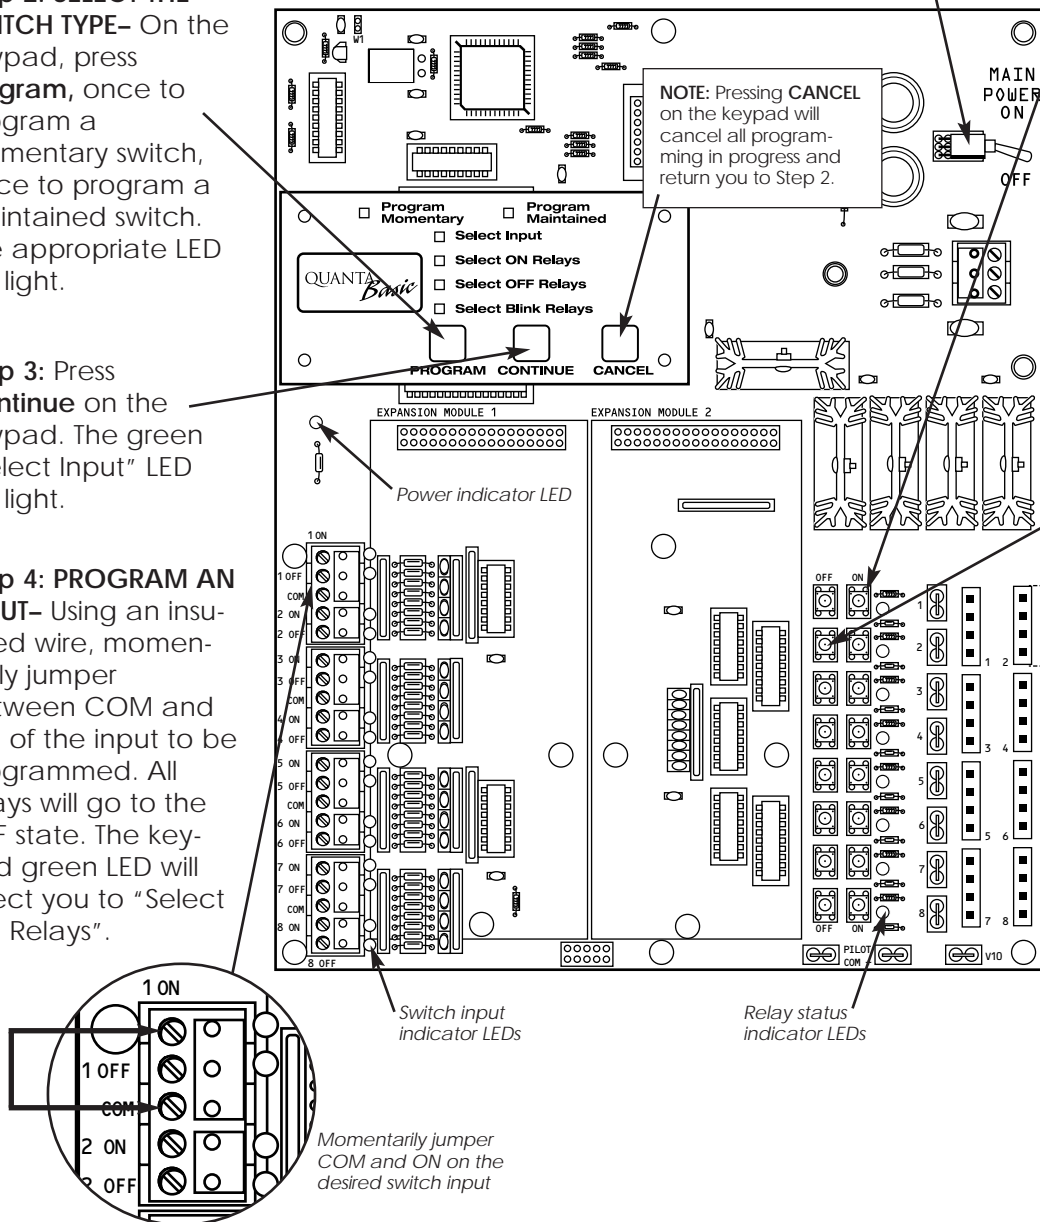

Figure 2.3 – Quanta Basic Programming Procedure
2.5.3 Program the Controller (See Figure 2.3)